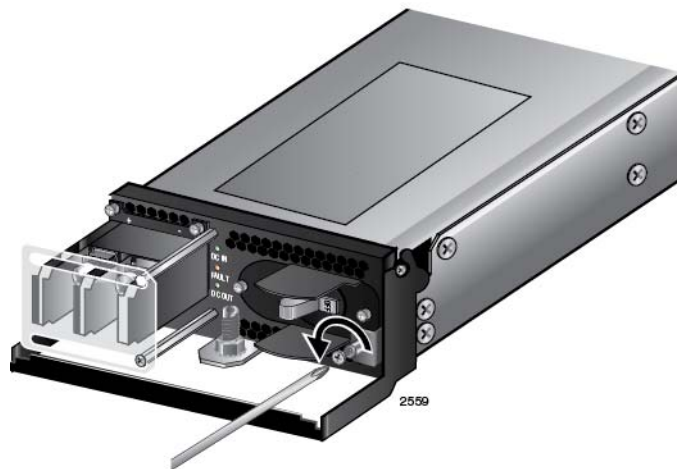

Figure 63. Loosening the Handle locking Screw on the AT-SBxPWRPOE1 DC System Power Supply
4. With a #2 Phillips-head screwdriver, loosen the handle locking screw on the power supply, as shown in Figure 63 on page 121.